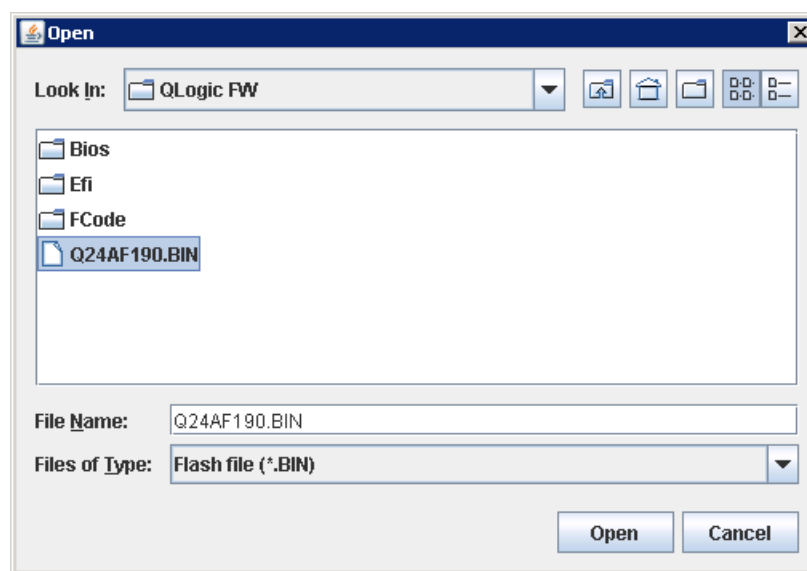

Figure 5-31 QLogic SANsurfer HBA BIOS update file
3. Select the corresponding file for your adapter as shown in Figure 5-31.